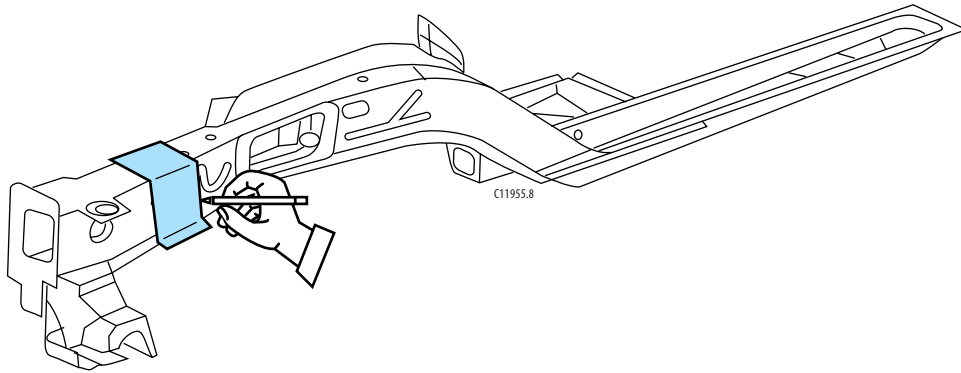

Figure 5-8:
1. Align the inner and outer templates on the service part and mark lines as indicated (figure 5-8).